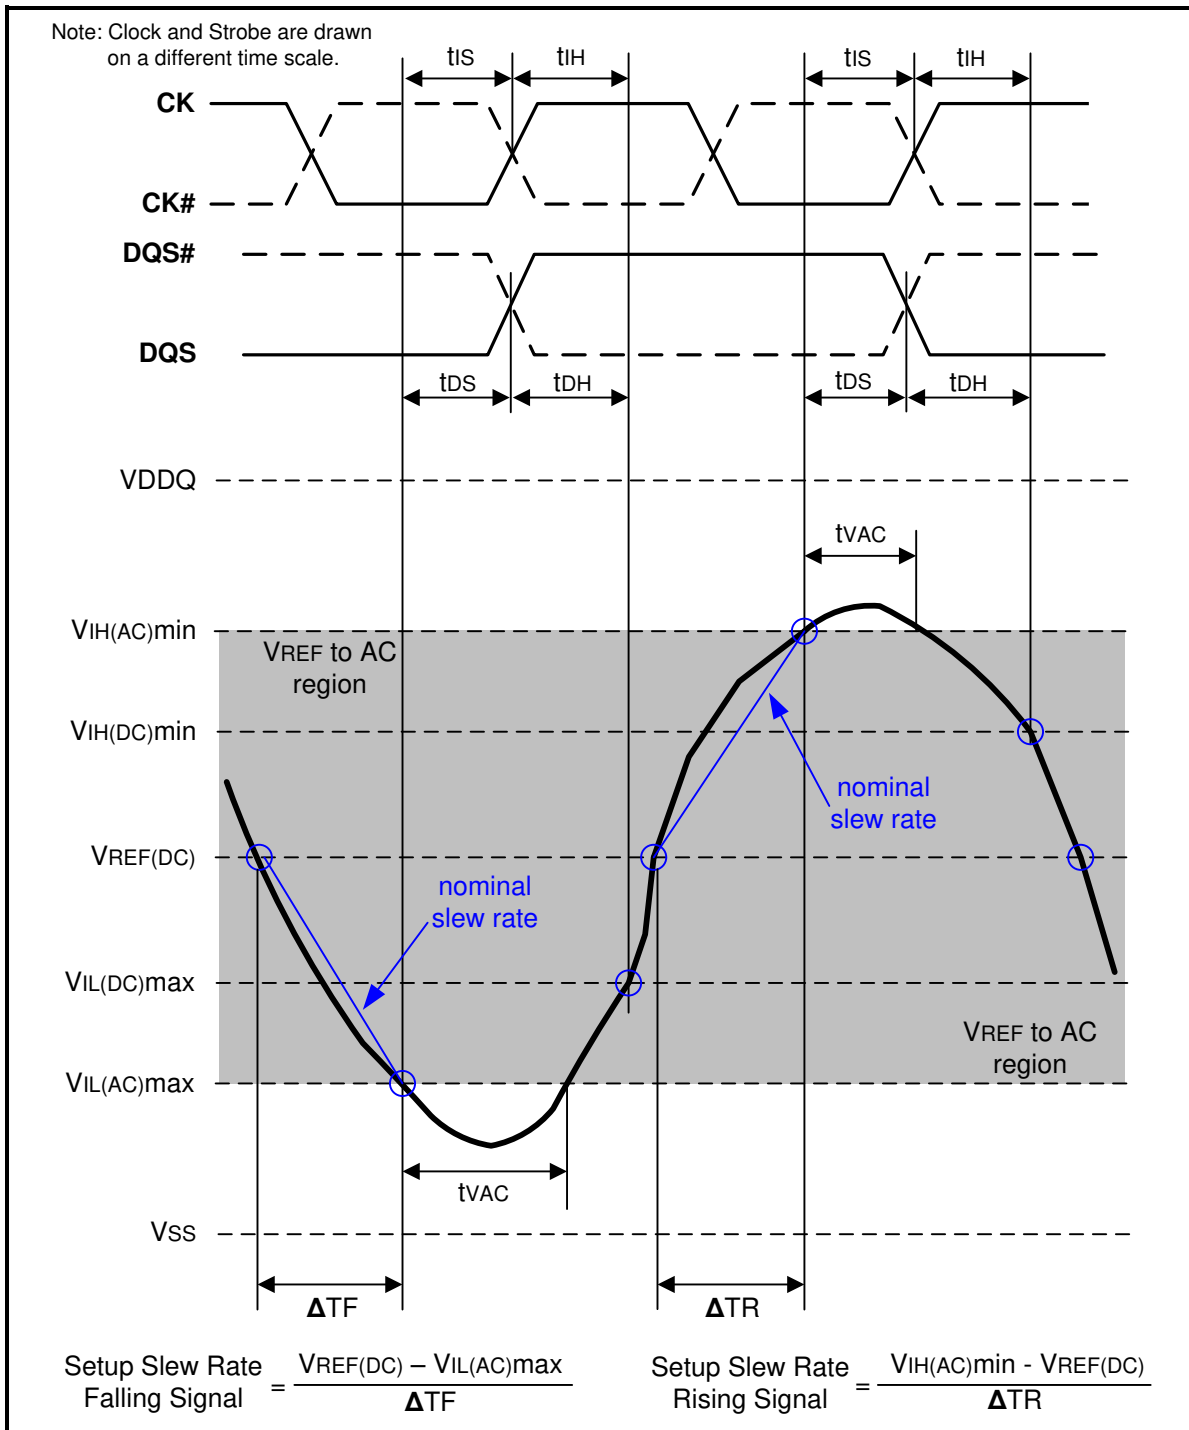
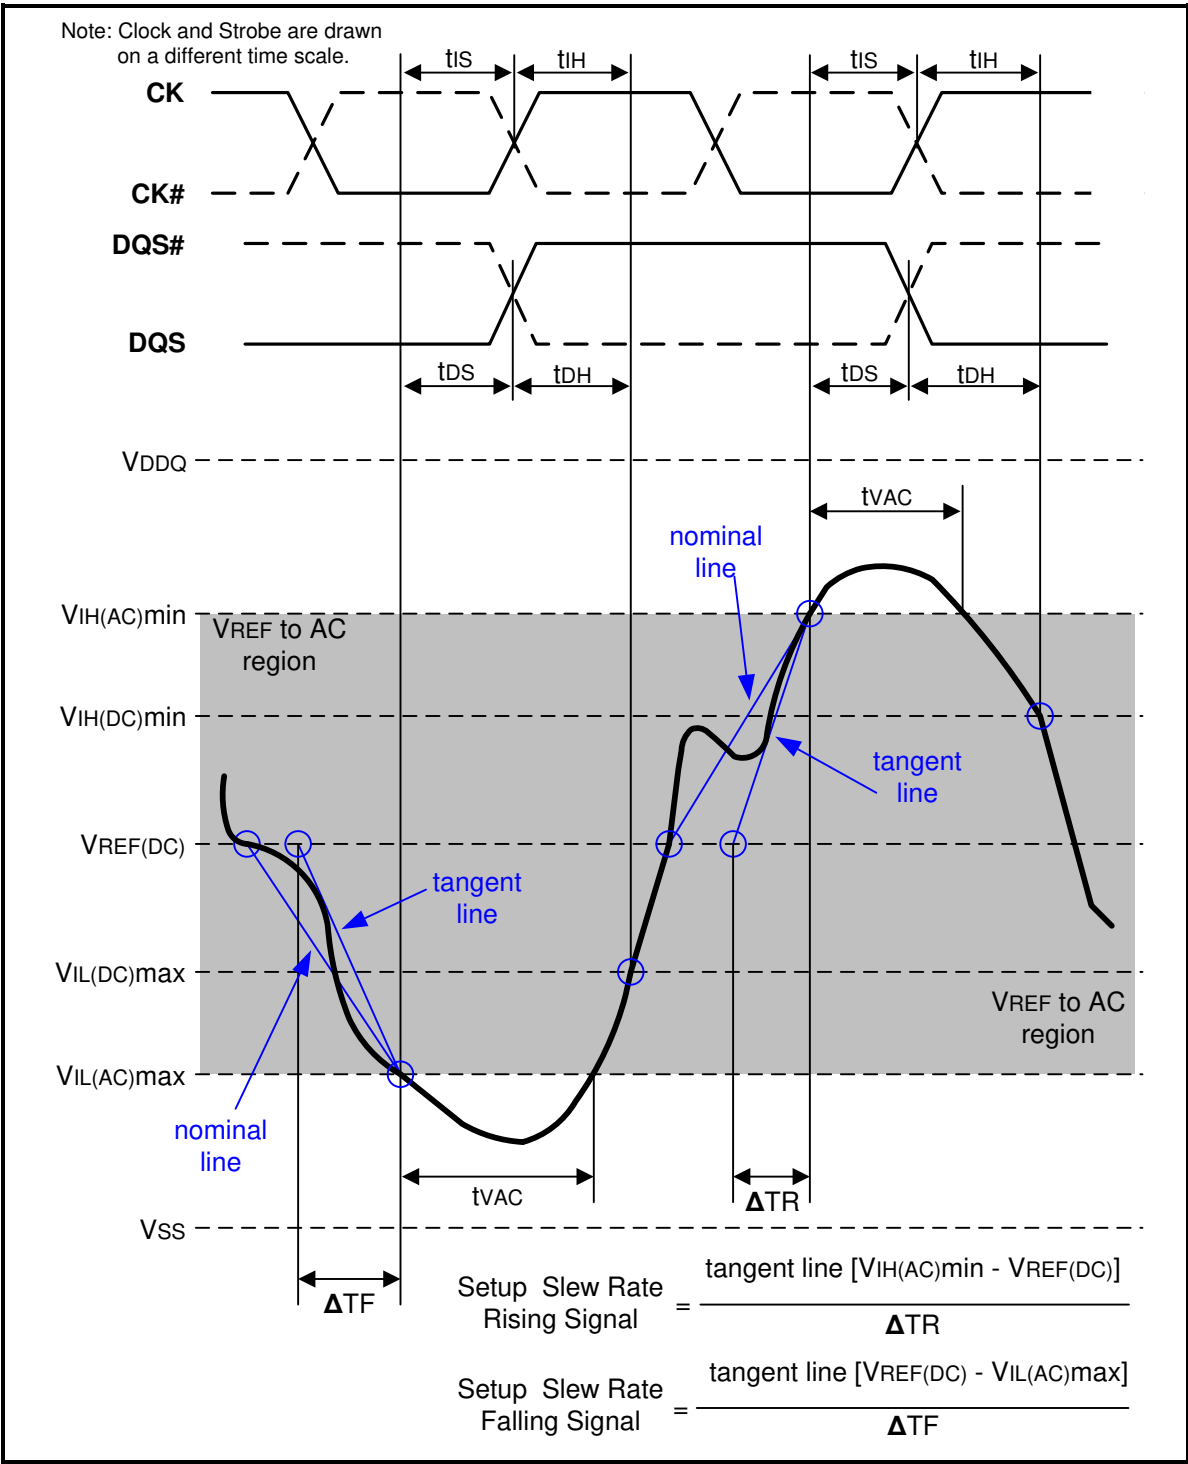

Figure 107 – Illustration of nominal slew rate and t_{VAC} for setup time t_{DS} (for DQ with respect to strobe) and t_{IS} (for ADD/CMD with respect to clock)
Figure 109 – Illustration of tangent line for setup time tds (for DQ with respect to strobe) and tis (for ADD/CMD with respect to clock)
Setup (t_{IS}) nominal slew rate for a rising signal is defined as the slew rate between the last crossing of $V_{REF}(\text{DC})$ and the first crossing of $V_{IH}(\text{AC})_{\text{min}}$. Setup (t_{IS}) nominal slew rate for a falling signal is defined as the slew rate between the last crossing of $V_{REF}(\text{DC})$ and the first crossing of $V_{IL}(\text{AC})_{\text{max}}$. If the actual signal is always earlier than the nominal slew rate line between shaded 'VREF(DC) to AC region', use nominal slew rate for derating value (see Figure 107). If the actual signal is later than the nominal slew rate line anywhere between shaded 'VREF(DC) to AC region', the slew rate of a tangent line to the actual signal from the AC level to DC level is used for derating value (see Figure 109).
Setup (tDS) nominal slew rate for a rising signal is defined as the slew rate between the last crossing of VREF(DC) and the first crossing of VIH(AC)min. Setup (tDS) nominal slew rate for a falling signal is defined as the slew rate between the last crossing of VREF(DC) and the first crossing of VIL(AC)max (see Figure 107). If the actual signal is always earlier than the nominal slew rate line between shaded 'VREF(DC) to AC region', use nominal slew rate for derating value. If the actual signal is later than the nominal slew rate line anywhere between shaded 'VREF(DC) to AC region', the slew rate of a tangent line to the actual signal from the AC level to DC level is used for derating value (see Figure 109).